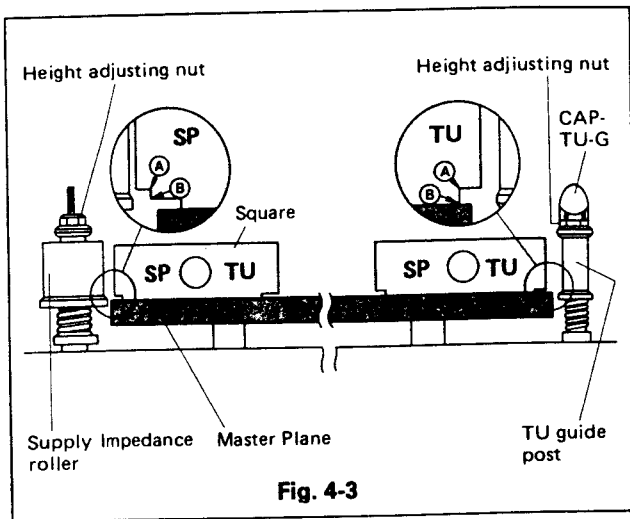

Fig. 4-3
- Install the master plane jig as described in item 4-2.
- By using the height adjust square, make sure that the collar at the bottom of the take-up guide pole slides under part (A) of the square but not under part (B) as shown in Fig. 4-3.
- Make sure that the flange at the bottom of the supply Impedance roller slides under part (A) of the square but not under part (B) as shown in Fig. 4-3.